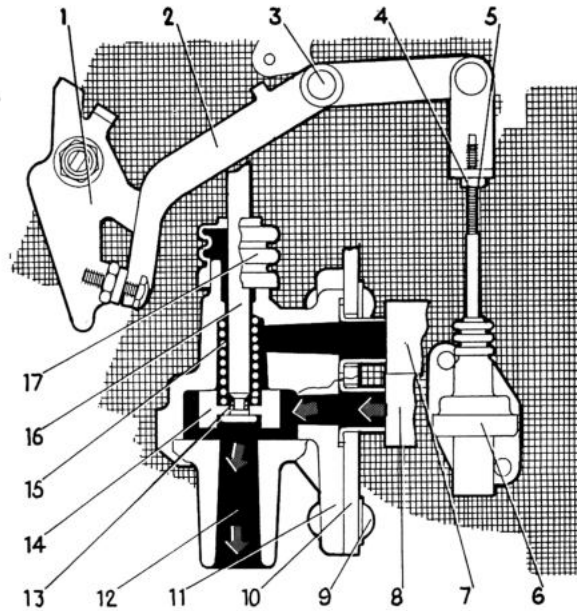
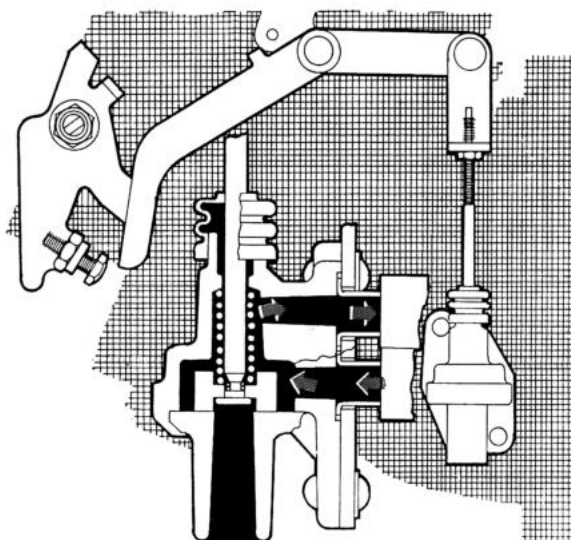

Fig. 2-65. Hot start valve, function, idling
Fig. 2-66. Hot start valve, function, driving
outlet (12, Fig. 2-65), and the fumes are led directly out into the atmosphere when the engine is switched off or idling.
When the throttle is at idling position, the lever (1), Fig. 2-65, presses against the valve control (2). The piston (14) is thereby lifted to its upper position by the control rod (16). The connection between the floatchamber and air cleaner is closed and fuel fumes are led directly out into the atmosphere through the outlet (12). (On vehicles fitted with an anti-fume device, the fumes are led from the outlet (12) to the venting filter.) When the accelerator pedal is depressed (See Fig. 2-66), the lever (1) releases the valve control (2) and the piston (14) is pressed by the spring (15) against its lower position. The outlet (12) is shut off, the fuel fumes are led into the air cleaner, and when the engine starts running, further through the carburettor and into the engine combustion chambers.